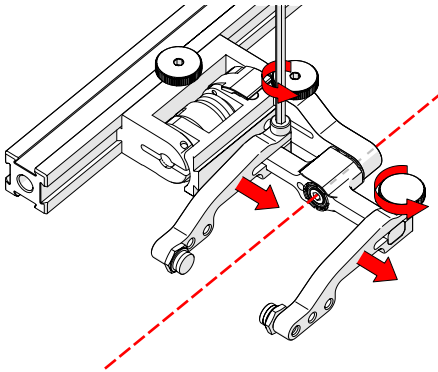

Fig. 46 - Adjust probe holder arms
5. Loosen the probe holder arm adjustment knob (Fig. 46) and remove the outer probe holder arm from the yoke.
6. Adjust the inner probe holder arm as required to best centre the probe on the yoke's pivot axis (Fig. 46).
TIP: The probe holder yoke can accommodate many different probe and wedge sizes of varying widths. It is best to centre the wedge with the yoke's pivot axis to reduce wedge tipping when scanning. Position the inner probe holder arm accordingly with the centre of the yoke (Fig. 46).